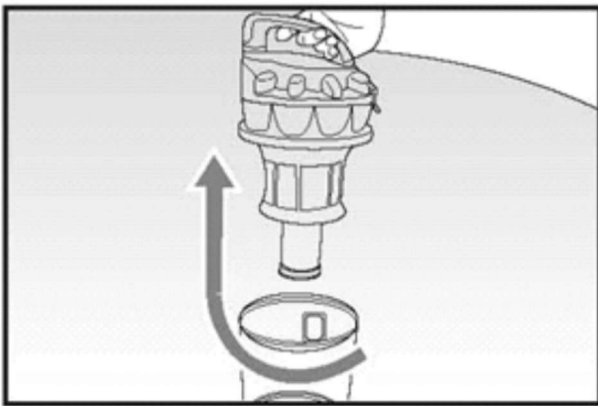
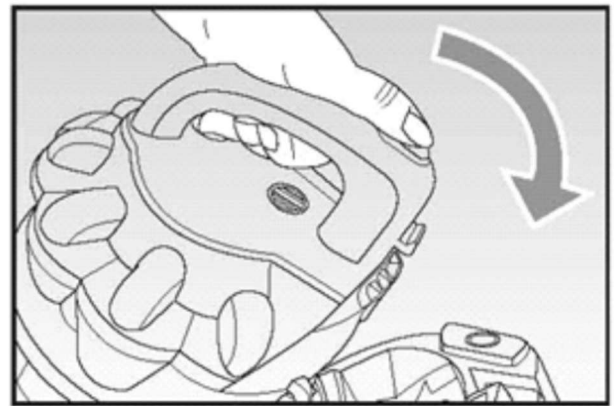

Fig. 10
Fig. 11
- Remove the complete filter by rotating it clockwise (Fig. 10). **IMPORTANT:** Wash the filter in clean water without soap or detergents. It is advisable to clean the filter at least every 6 months or in any case, when suction is visibly reduced.
- Before using the appliance again, reassemble the container (A).
- Place the filter inside the container (A) and lock it into place by turning it anticlockwise.
- Now refit the whole dust container (A) onto the appliance body, pressing gently until it clicks into place (Fig. 11).